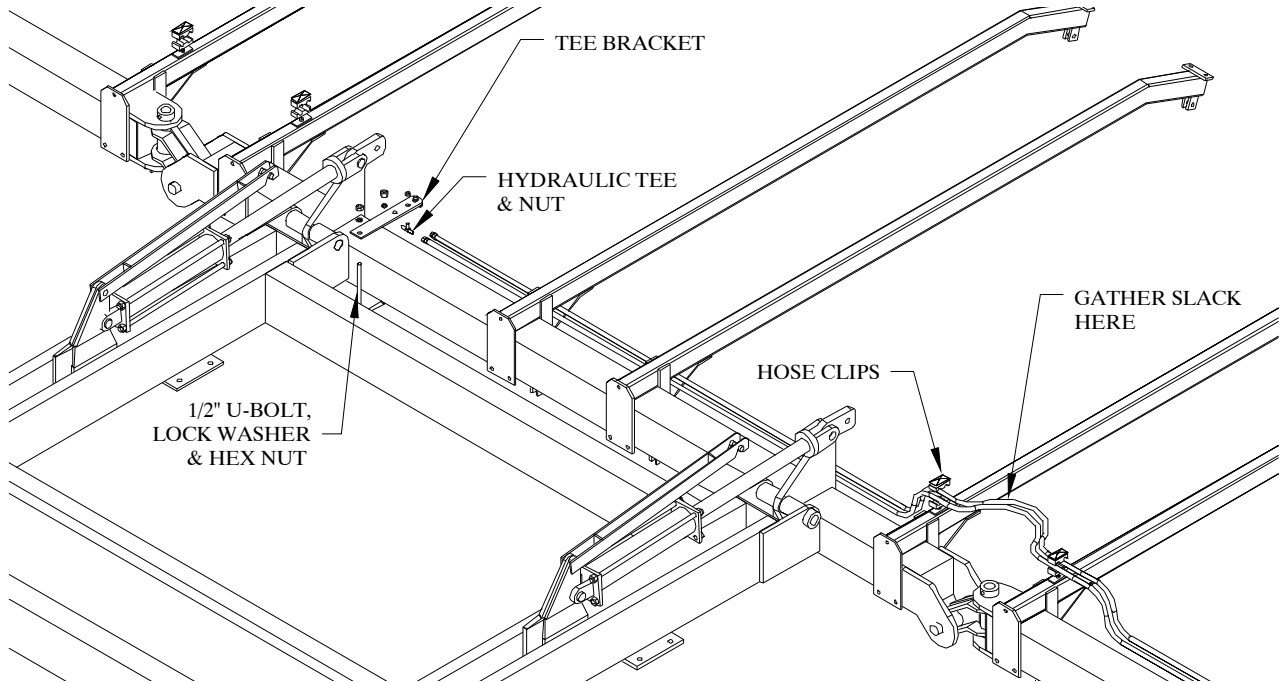

Figure 22
5. Bolt the hydraulic hose tee post to the center bar 6" from the center bar hinge plate as shown in Figure 22. Use a ½ x 6 x 7 ¾ U-bolt, lock washers and hex nuts.